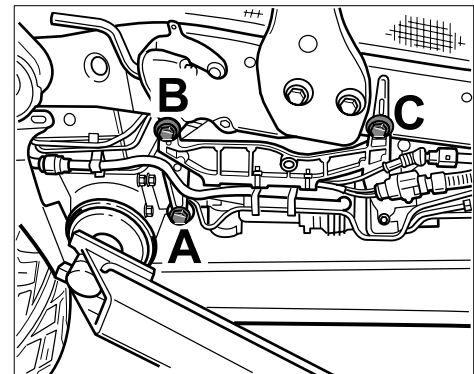

Figure 6
- 3.2.1 Unscrew fastening screws ⇒ *Figure 6 -A, B and C-* on the compressor and support compressor using suitable devices. ⇒ *Workshop Manual '43151900 Removing and installing compressor for the levelling system'*
- 3.3 Release compressor and tighten fastening screws on the compressor ⇒ *Figure 6-A, B and C-*.